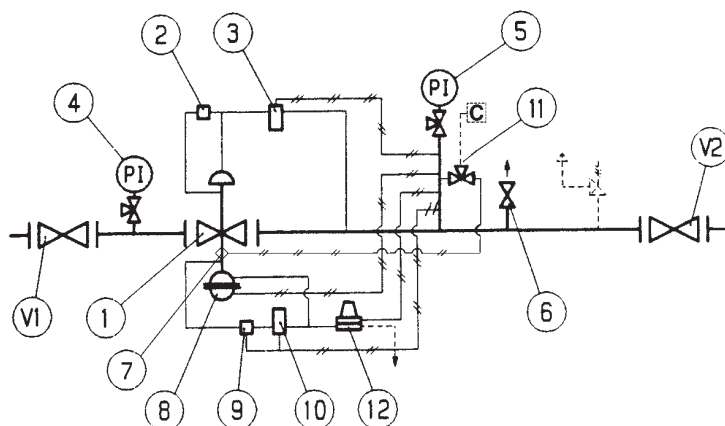

Fig. 17
5.3 MESSA IN SERVIZIO CON REGOLATORE APERVAL E VALVOLA ACCELERATRICE (FIG. 17)
5.3 COMMISSIONING WITH REGULATOR APERVAL AND ACCELERATING VALVE (FIG. 17)